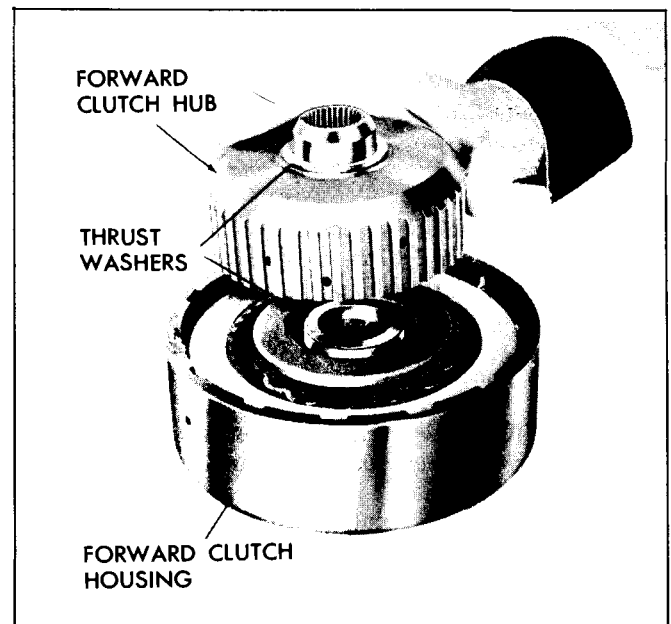

Fig. 7E-115 Removing or Installing Forward Clutch Hub
1. Place forward clutch and turbine shaft in hole in bench or Holding Fixture J 6116 and remove forward clutch housing-to-direct clutch hub snap ring (Fig. 7E-114).